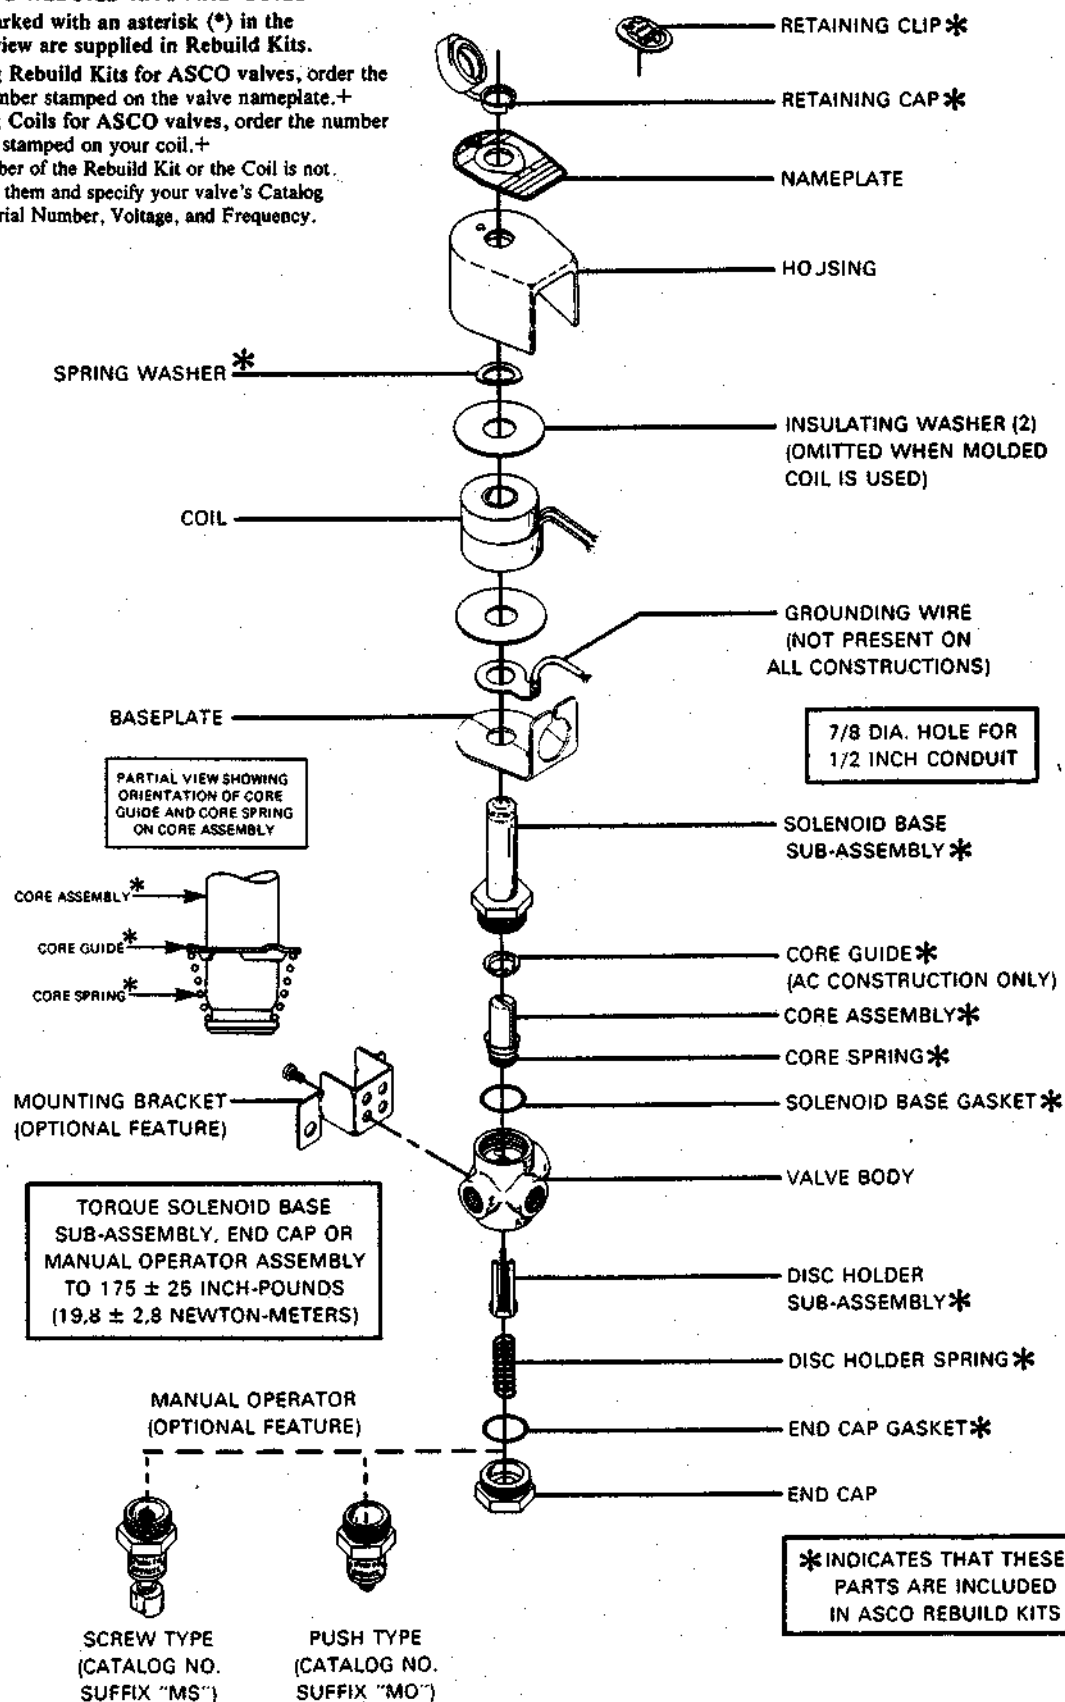

Figure 4. Bulletin 8320, Brass Construction
Coil Replacement (Refer to Figures 4 and 5)
Valve Disassembly (Refer to Figures 4 and 5)
- **Open-Frame Construction:** The green solenoid may be supplied with 1/4" spade, screw or DIN terminals. (Refer to Figure 4)